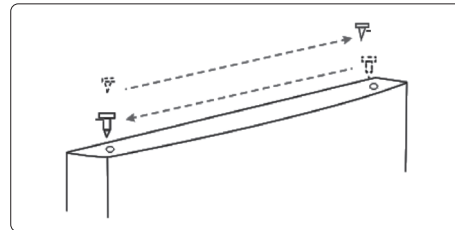

fig.9
- 11. Move the door bushing from the top right side of the refrigerator door to the top left side of the door and move the left hole cover to the right side (fig.9).